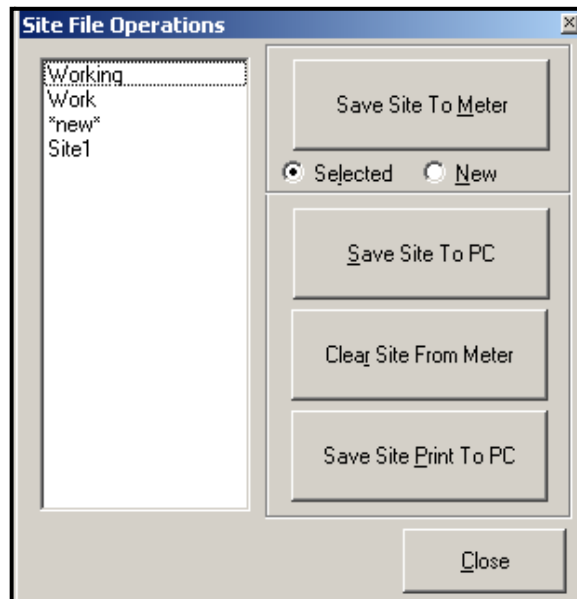

Figure 31: *Site File Operations* Window
To access site files, click on the *Site Files* button in the *Properties* window. The *Site File Operations* window (shown in Figure 31 below) opens.
1. Highlight the desired site in the left pane. (See Figure 31 on page 102.)
1. Highlight the site in the left pane. (See Figure 31 on page 102.)
1. Highlight the site in the left pane. (See *Figure 31* on page 102.)